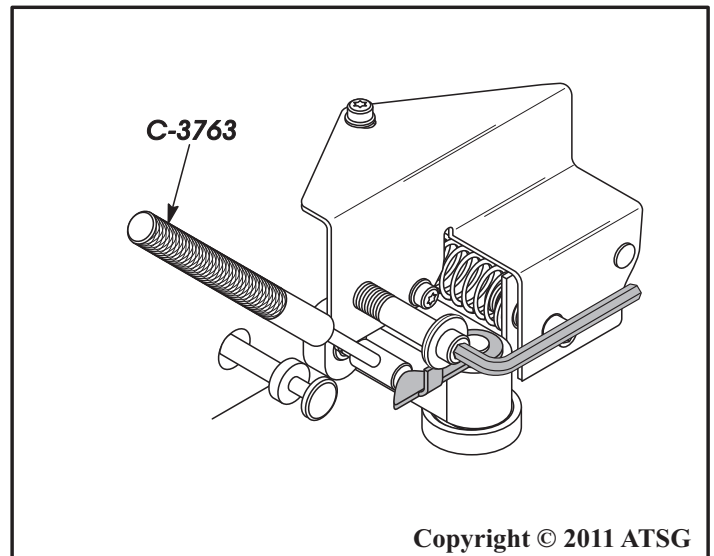

Figure 216
1. Insert **required** gauge C-3763 between throttle lever cam and the kickdown valve, as shown in Figure 216.
4. Turn the throttle lever screw using hex-wrench, as shown in Figure 216, until the screw head just touches throttle lever tang and the throttle cam touches gauge tool.